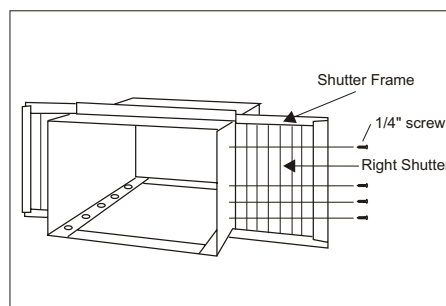

Fig. 4
Slide the shutters into the top and bottom channels as shown in (Fig. 4). The shutters are identified (on each frame) as "left" & "right". Attach the shutters to the cabinet using (4) 1/4" screws on each side.